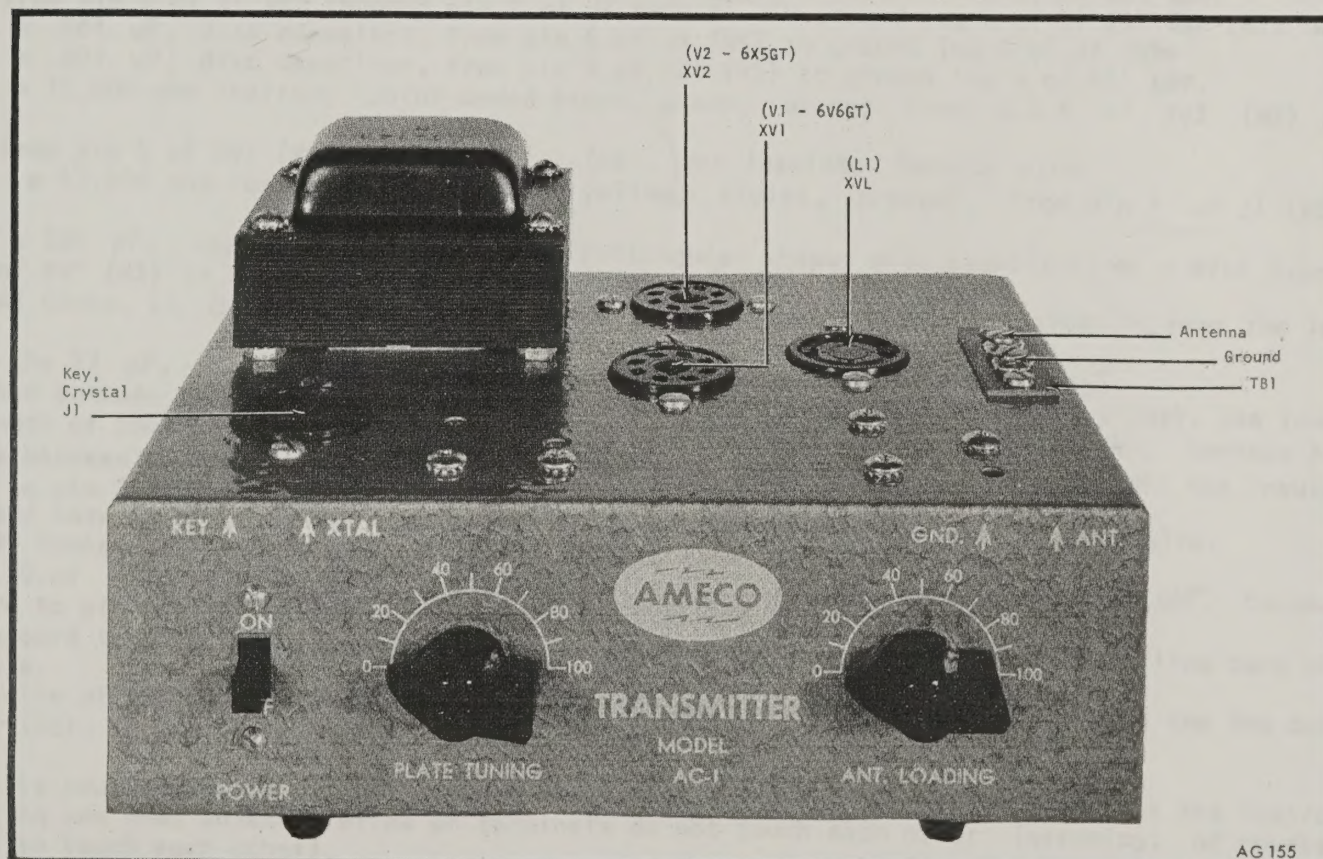

FIGURE 2: TOP VIEW
10. Mount S1, the slide switch, in the position indicated in Figure 2. Position the slide switch so the two solder lug terminals are near the top of the chassis. Use two 4-40 x 1/4 screws, two #4 lockwashers and two 4-40 nuts in the manner described in Step 2.